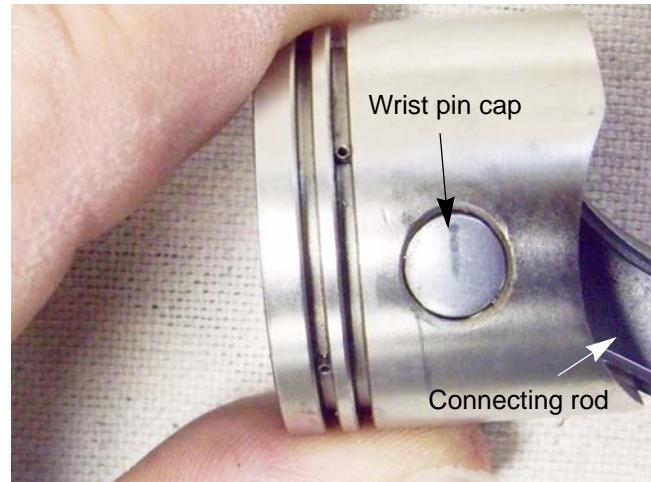

Figure 8.9
15. Remove the cap from the wrist pin bore of the piston. See Figure 8.9.